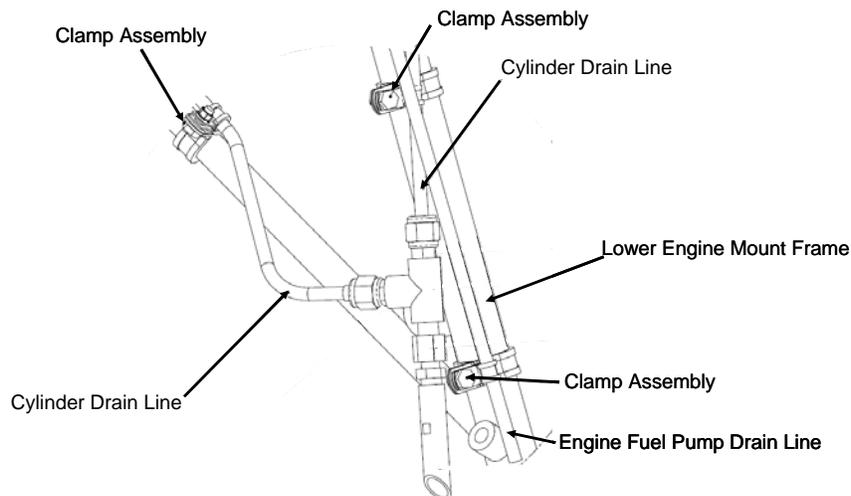

Figure 71-12 Fuel Drain Line Clamp Assembly Installation
5. Install clamp assemblies connecting fuel drain lines to the lower engine mount frame assembly as shown in Figure 71-12. Fuel drain lines are removed with the engine.